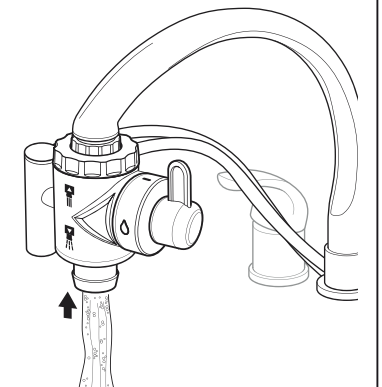

Figure 4.4 – Aerator Nozzle
- Push nozzle up for normal flow (see Figure 4.4).